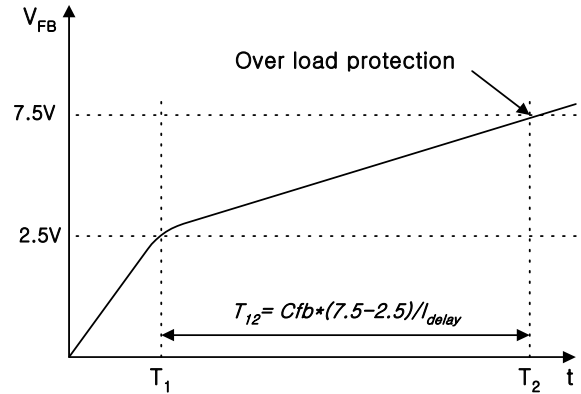

Figure 7. Over Load Protection
3.1 Over Load Protection (OLP) : Overload occurs when the load current exceeds a pre-set level due to an unexpected event. In this situation, the protection circuit should be activated in order to protect the SMPS. However, even when the SMPS is in the normal operation, the over load protection circuit can be activated during the load transition. In order to avoid this undesired operation, the over load protection circuit is designed to be activated after a specified time to determine whether it is a transient or overload situation. Because of the pulse-by-pulse current limit capability, the maximum peak current through the Sense FET is limited, and therefore the maximum input power is restricted with a given input voltage. If the output consumes beyond this maximum power, the output voltage (V_o) decreases below the set voltage. This reduces the current through the opto-coupler LED, which also reduces the opto-coupler transistor current, thus increasing the feedback voltage (V_{fb}). If V_{fb} exceeds 2.5V, D1 is blocked and the 2uA current source (I_{delay}) starts to charge C_B slowly up to V_{cc} . In this condition, V_{fb} continues increasing until it reaches 7.5V, then the switching operation is terminated as shown in figure 7. The delay time for shutdown is the time required to charge C_B from 2.5V to 7.5V with 2uA. In general, a 10 ~ 50 ms delay time is typical for most applications.